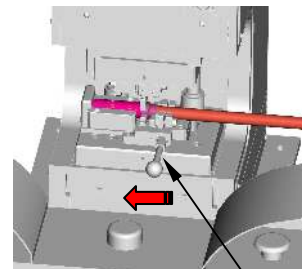

Fig. 10
6. When the crimping process is completed, the cable clamp can be opened and the crimped connector with cable removed. Open the cable clamp by operating the foot switch. If the connector is clamped in the tool, the clamp can be released by moving the lever to the left (see Fig. 10).